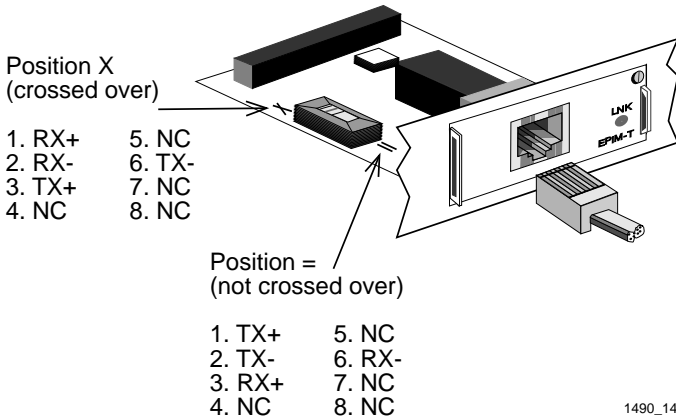

Figure 5-2 EPIM-T Crossover Switch
Before connecting a segment to the EPIM-T, check each end of the segment to determine if the wires cross over for proper connection. If the wires do not cross over, use the switch on the EPIM-T to internally cross over the RJ45 port. Figure 5-2 shows the pin assignment of the port according to the switch position.
1. Connect the segment to the module by inserting the RJ45 connector on the segment into the RJ45 port on the module. See Figure 5-2.